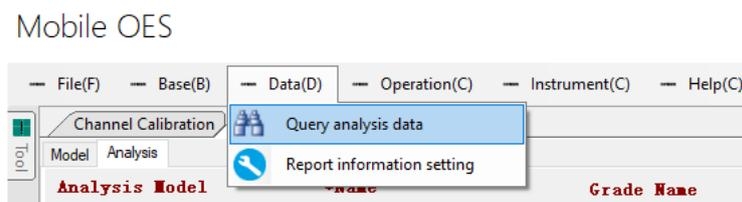

Figure 5-3 Query analysis data
Step 1 Find "Query information setting" under "Data" on the menu bar, as shown in Figure 5-3: